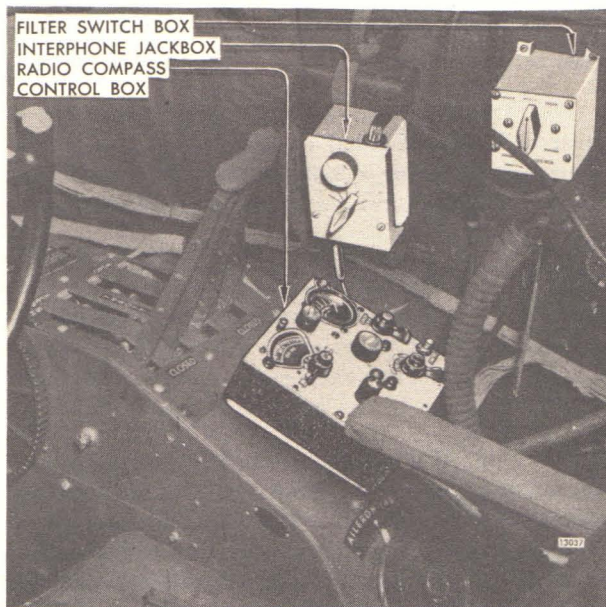

Figure 83 — Copilot's Radio Controls
5. Set filter switch box (Figure 83) selector switch on "BOTH". If rejection of radio range quadrant signals is desired, set on "VOICE". If reception of radio range quadrant signals with rejection of voice modulation is desired set on "RANGE".